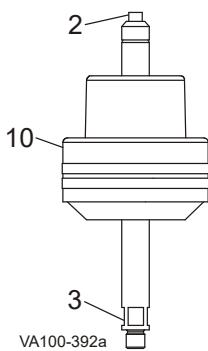
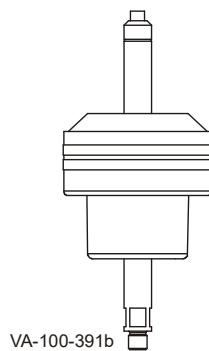

Figure 46:
Figure 47:
3. Using a 5/8-inch wrench on the lower stem (Figure 46, item 3) and a 3/8-inch wrench on the upper stem (item 2), unscrew and remove the two actuator stem halves.
4. Turn the piston/spring assembly (item 10) over.
5. Install the actuator stem halves in the piston/spring assembly. See Figure 46 for Air-to-Raise configuration; Figure 47 for Air-to-Lower configuration.